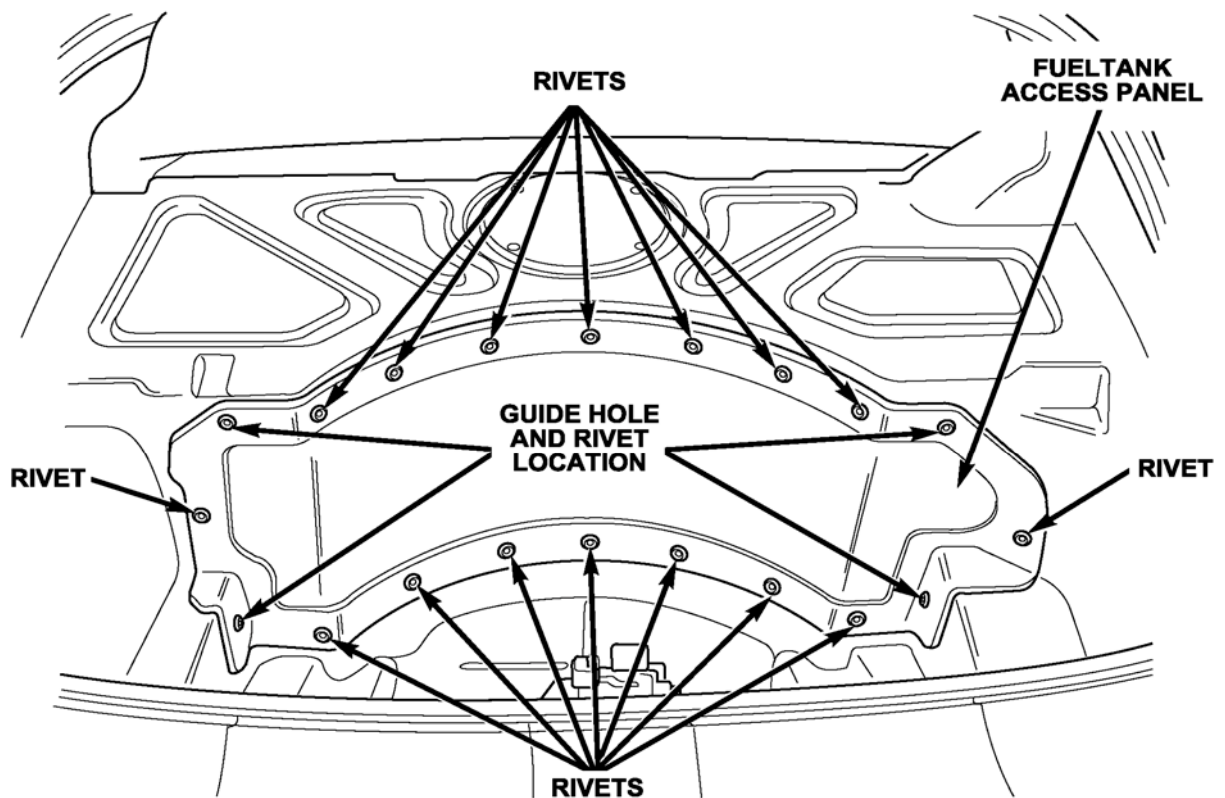

Figure 40
15. Place the new fuel tank access panel over the access hole and drill two guide holes in the lower corners of the access panel (Figure 40). Use a ¼ inch diameter drill bit and set the drill stop to 3/8 inch or damage to components behind the panel could result.
16. Drill two ¼ inch diameter holes in the upper corners using the holes in the access panel as a guide (Figure 40).
19. Drill 20 ¼” holes as shown in Figure 40 and install the rivets using rivet gun.